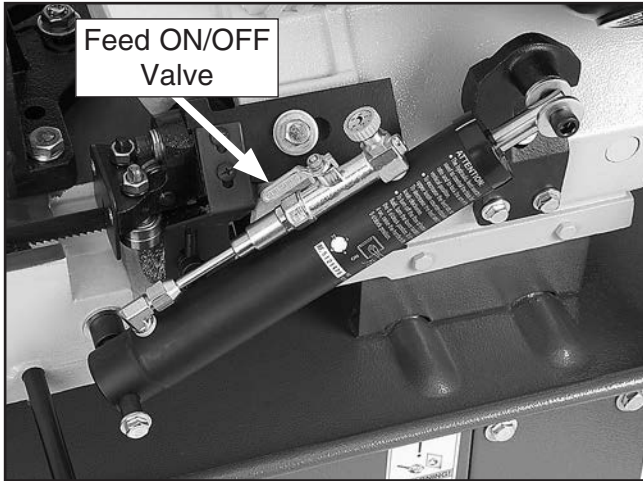

Figure 28. Location of feed ON/OFF valve.
4. Raise bow about halfway, then close feed ON/OFF valve to lock bow in place (see **Figure 28**).